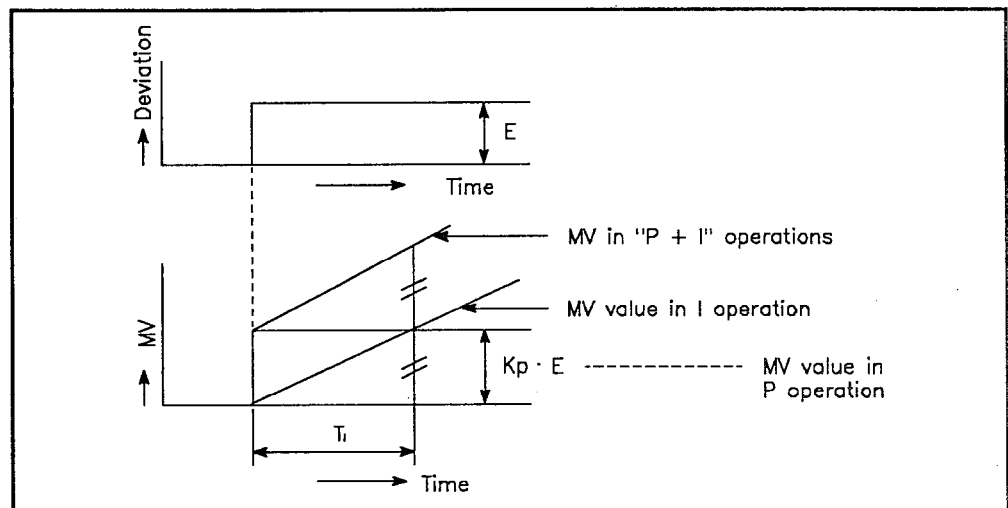

Fig. 4.3 Integrating Operation with a Constant Deviation
- (1) In the integrating operation, the MV (manipulated value) changes continuously to zero deviation when it occurs. This operation can eliminate the offset that is unavoidable in proportionate operation.
- (2) The time required for the MV in integrating operation to reach the MV for proportionate operation after the generation of deviation is called the integrating time. Integrating time is expressed as T_i . The smaller the setting for T_i , the more effective the integrating operation will be.
- (3) The integrating operation in step response with a constant E (deviation) is illustrated in Fig. 4.3.